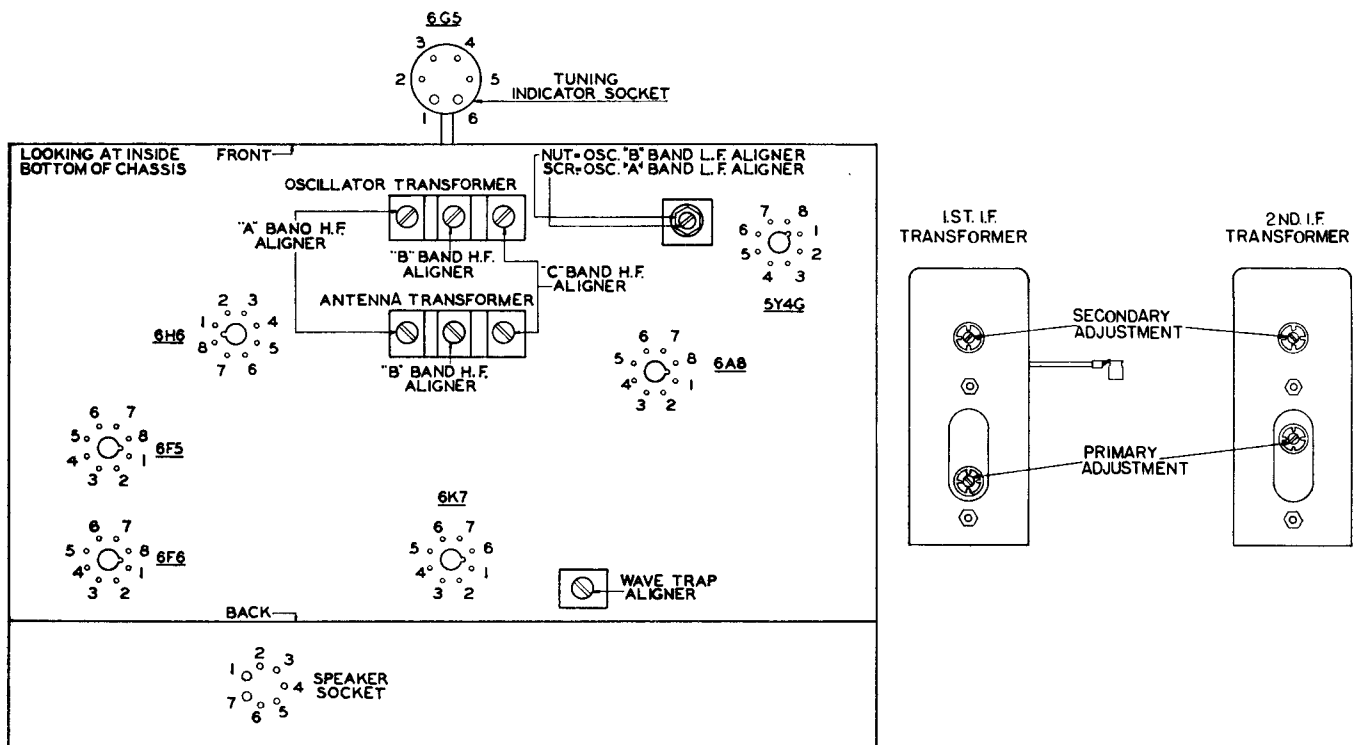

Fig. 1.—Terminal Layout for Voltage Measurement Chart and Location of the Various Aligning Capacitors.
The various values of voltages listed in the following table are obtained by measuring between the various tube socket contacts and the chassis base with the tubes in their respective sockets. The receiver is, therefore, in operation when the measurements are made. Figure 1 shows the terminal layouts of the sockets with the proper terminal numbers.
In making any alignment adjustments, always adjust the test oscillator's output voltage to the minimum value where a good alignment may still be obtained. Never attempt to make any alignment adjustments using a strong signal. Before proceeding with the alignment of any circuits in these receivers be sure that the "Signal Admission Control" is set for the maximum sensitivity position and that the "Off-On-Tone" control knob is set for maximum treble response (position where knob is rotated from its maximum counter-clockwise position, slightly clockwise to position where set turns "on"). Figure 1 shows the location of all the aligning capacitors or adjustments for this receiver.
- Now, noting from Figure 1 the aligning adjustments for the first and second I. F. transformers, align the I. F. circuits in the following manner: